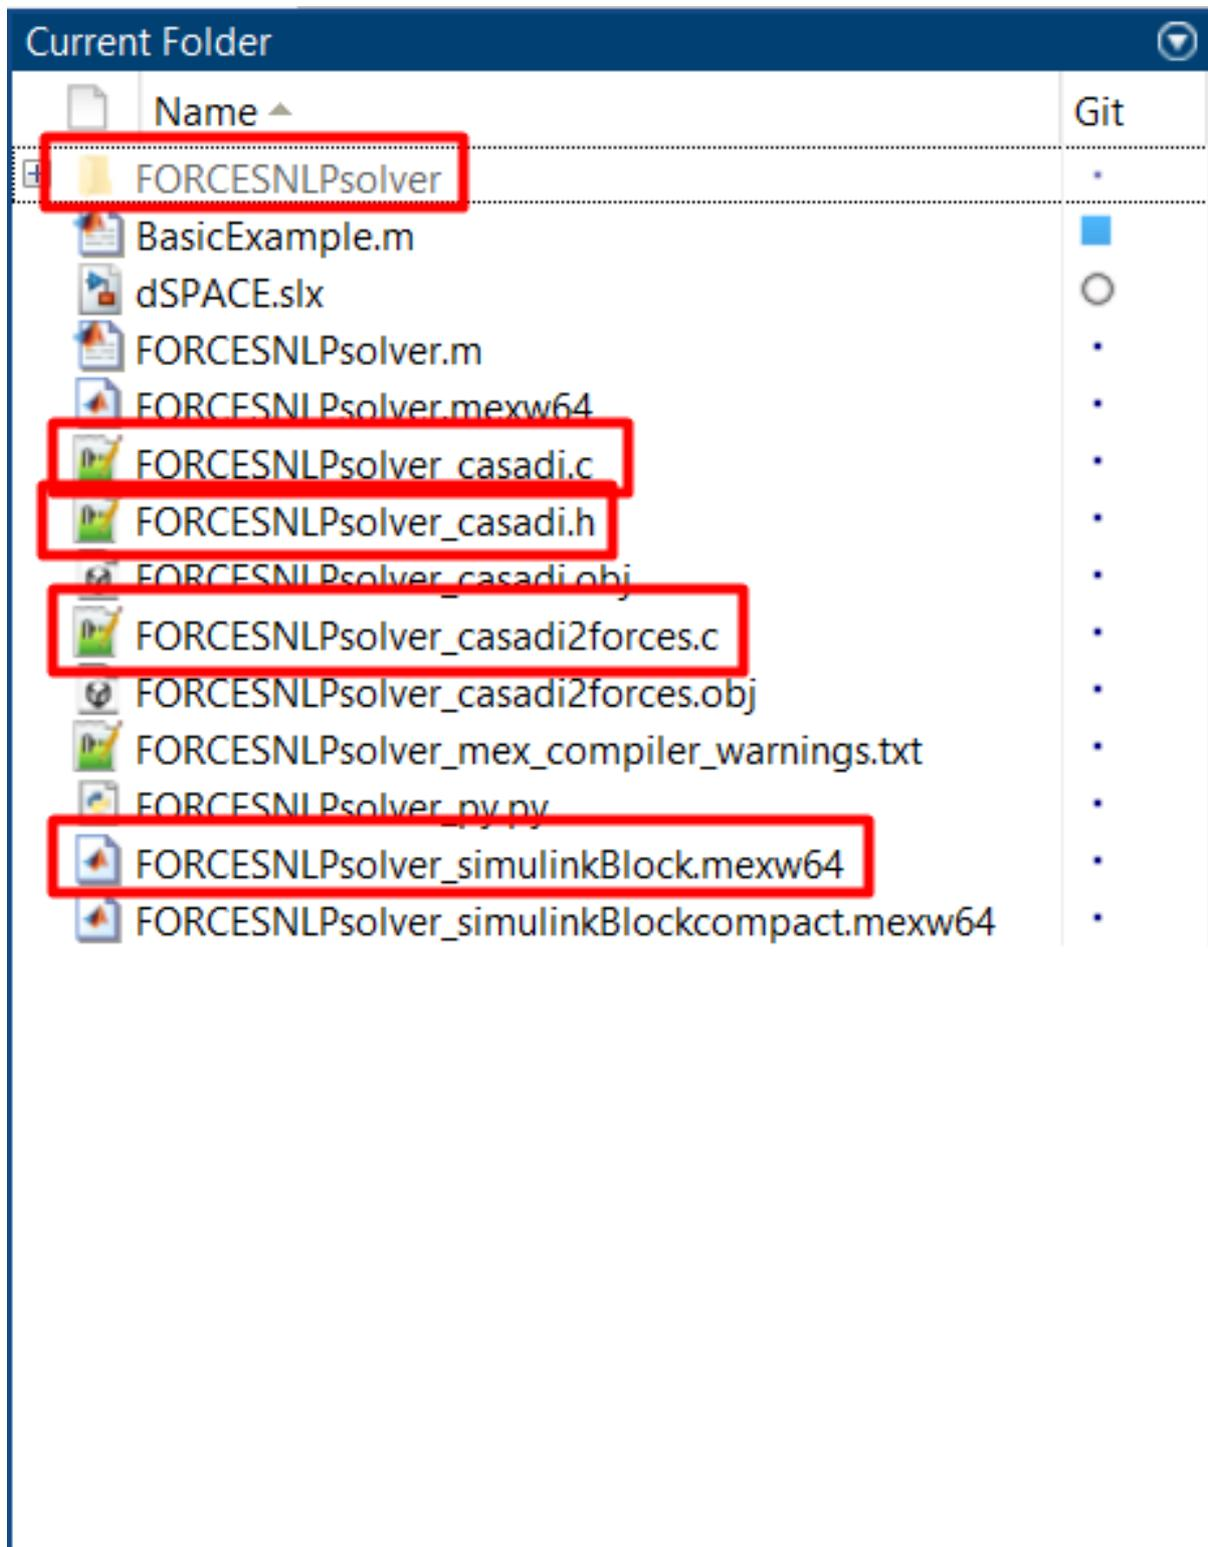
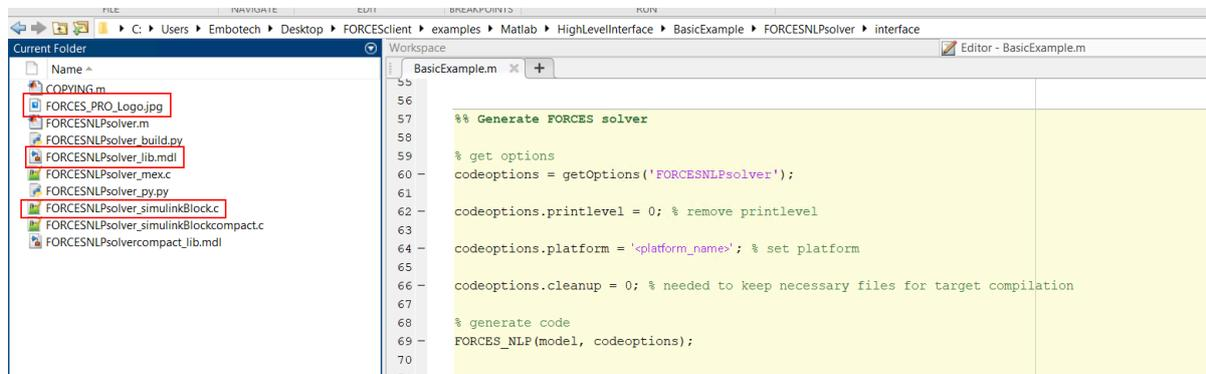
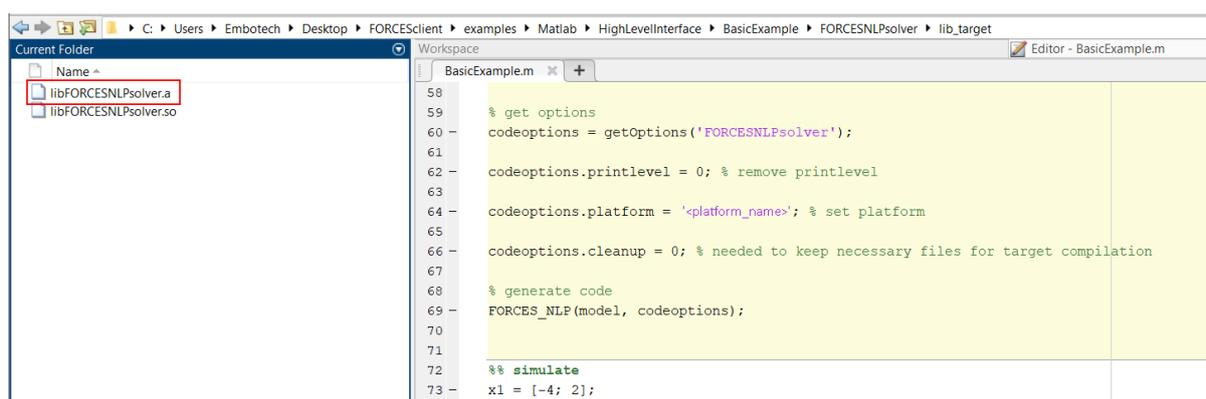

Figure 13.31: Generated files.
Figure 13.32: Solver interface files.
Figure 13.33: Solver libraries.
- 4) Run the BasicExample.m script to perform code generation for your solver (henceforth referred to as FORCESNLPsolver, placed in the folder "BasicExample"). This will create the necessary files for your building (see Figure 13.31, Figure 13.32 and Figure 13.33).